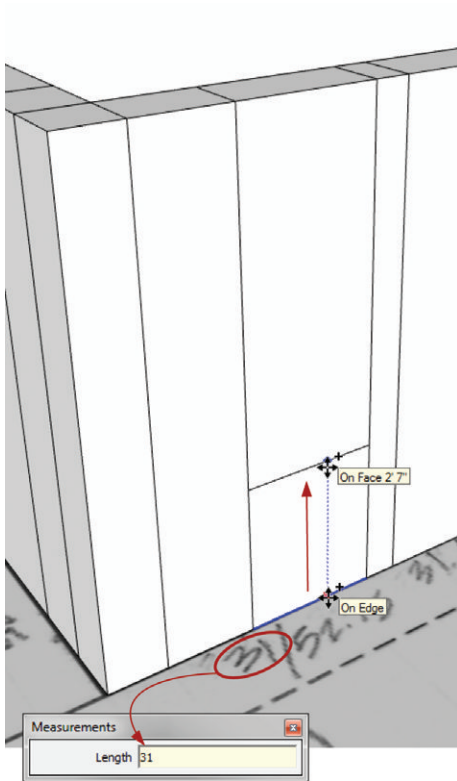
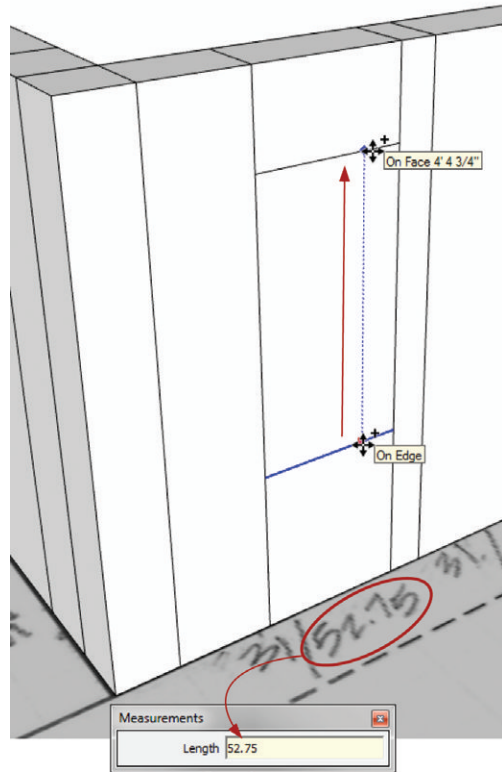
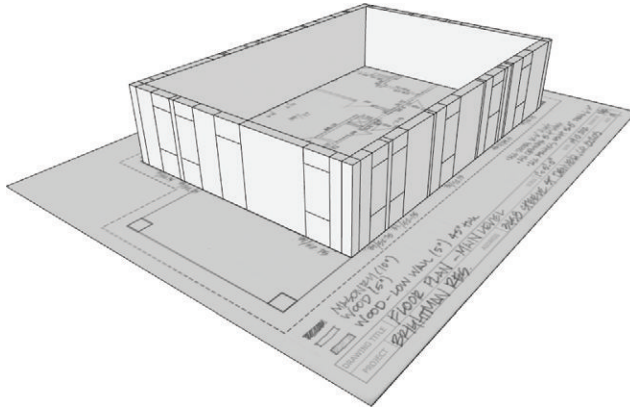

Figure 17.29 Use the Move tool to copy edges up to the sill heights noted on the field notes drawing. (Southwest corner of the plan is shown.)
Figure 17.30 Use the Move tool to copy edges up to the head heights noted on the field notes drawing. (Southwest corner of the plan is shown.)
Figure 17.31 The exterior walls extruded with starting faces that define major openings
4. Navigate to the outside of the model. Use the Move tool to copy the bottom lines of the door and window openings up to the noted sill heights, and then again for the head heights (Figure 17.29, Figure 17.30, Figure 17.31).